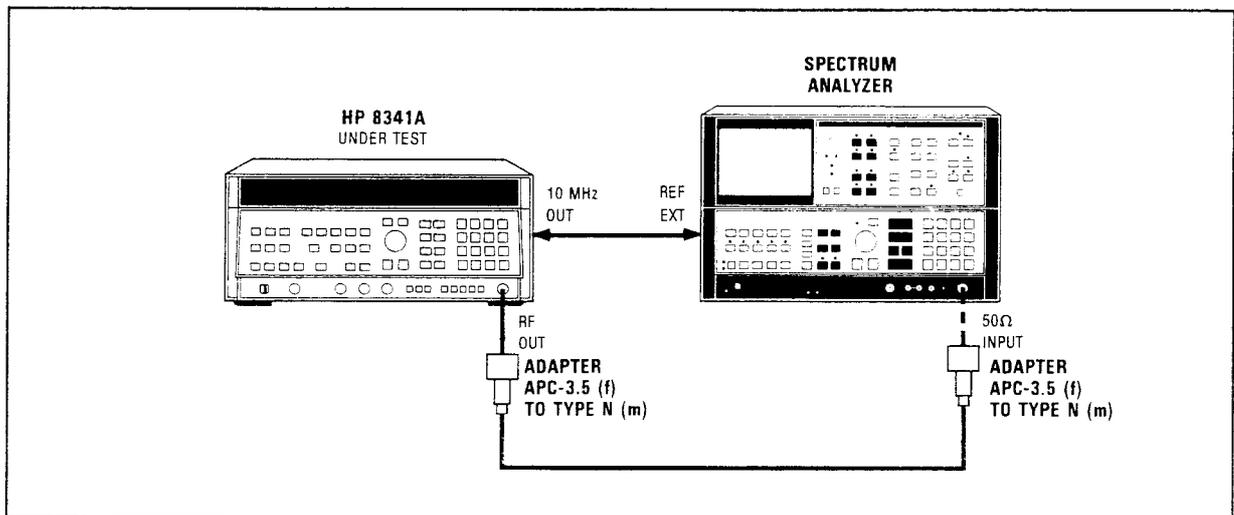

Figure 4-7. Spurious Signals Test Setup (10 MHz to 20 GHz)
1. Connect equipment as shown in Figure 4-7. The position of the HP 8341A under test can affect spurious responses: therefore, place the HP 8341A in its normal operating position (i.e., flat on its feet) for this test. Allow at least 30 minute warm up time.